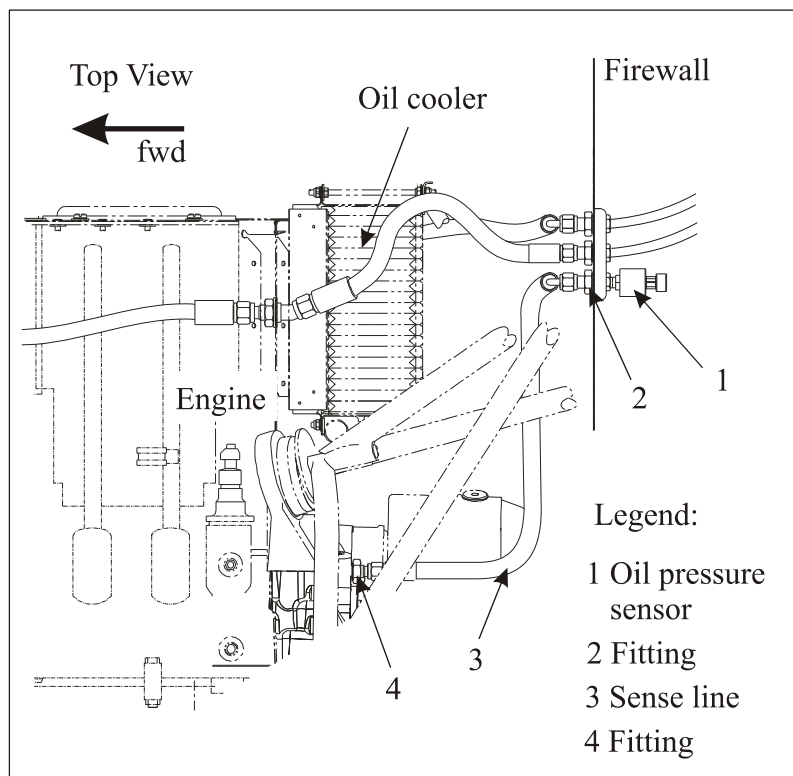

Figure 4 Oil Pressure Sensor & Wet Line
The oil pressure gauge is located in the rear instrument panel. The gauge receives its data electrically from a pressure sensor located on the aft side of the firewall (refer to figure 4). The pressure sensor (1) is connected to a fitting (2) on the cold side of the firewall. A sense (wet) line (3) connects the bulkhead fitting to the reducer fitting (4) at the engine.
- 2 Disconnect the sense wet line at firewall bulkhead fitting and at engine fitting (refer to figure 4).